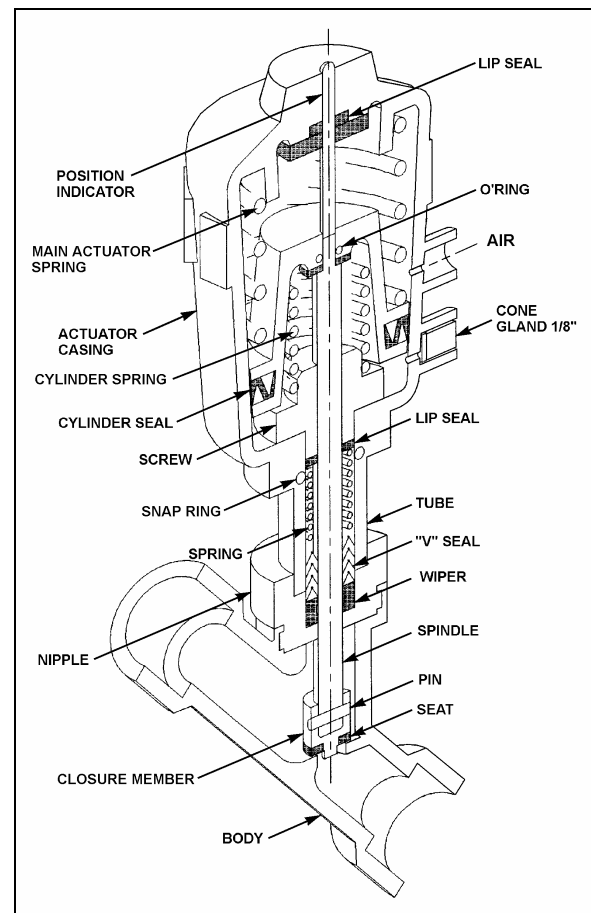

FIGURE 54: PNEUMATIC WATER VALVE
2. The water valve need not be removed from the line. Unscrew nipple, the actuator casing, tube, spindle and closure member can be removed (Fig. 54).
2. Tighten the nipple in place in the body cavity as per figure 54. Fasten pilot solenoid valve to the pneumatic water valve. Reconnect air supply pressure and electrical current to the pilot solenoid valve.